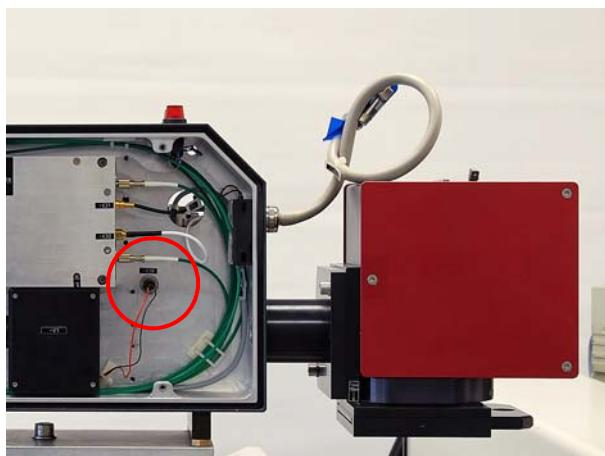

Figure 7.139 Connecting plug of the alignment laser
3. Remove the connecting plug of the alignment laser (-X38) (see Figure 7.139).